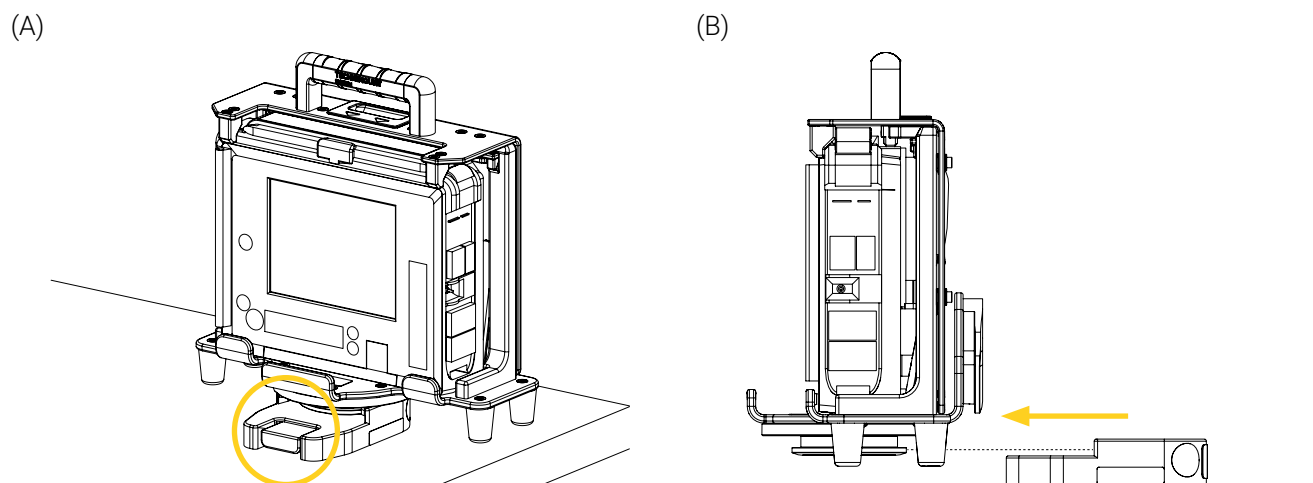
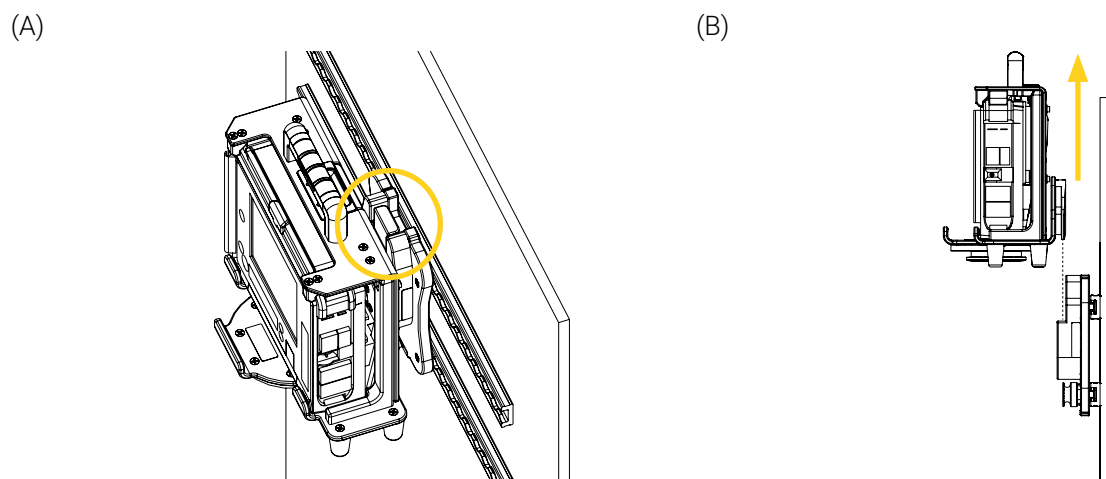

Figure 17: Removing the medical device from the mounting system horizontally
Figure 18: Removing the medical device from the mounting system vertically
1. Press and hold the quick-release button of the mounting system, then slide the micro disc located under the mounting bracket of the medical device out of the mounting system horizontally (Figure 17) or the anti-rotation micro disc located at the back of the bracket out of the mounting system vertically (Figure 18).